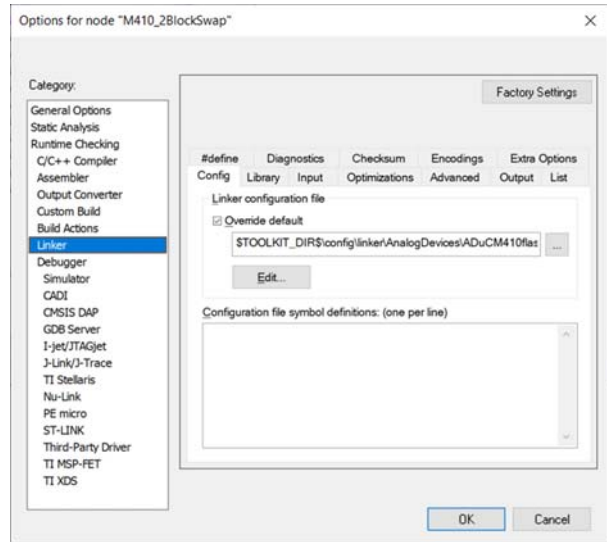

Figure 13. Linker Setting
- Next, click the **Linker** category, check the **Override default** box in the **Config** tab, and browse for the linker file under the **Linker configuration file** section, as shown in Figure 13.